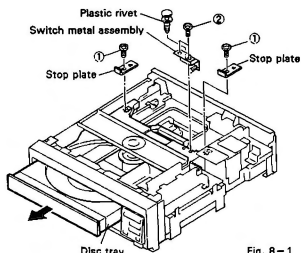

Fig. 8-1
1. Perform the adjustment after removing the disc tray (Fig. 8-1) and changing to the service mode in the test mode (see "7. TEST MODE").